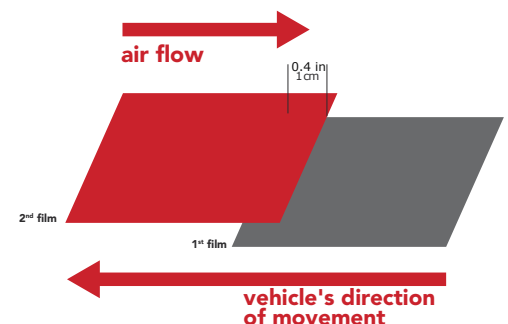

Figure 24
- Vertical overlap on a mobile surface: Assuming you always apply the film starting from the rear of the vehicle and moving to the front, then the overlapping will be done in the same way. (FIG. 24)